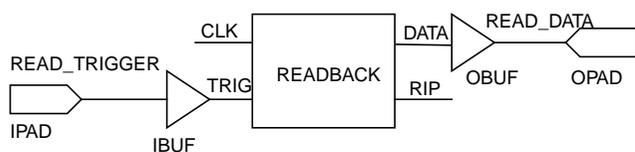

Figure 2: Example of Readback Schematic
1. Instantiate the `READBACK` symbol in your schematics or HDL based design (Figure 2).